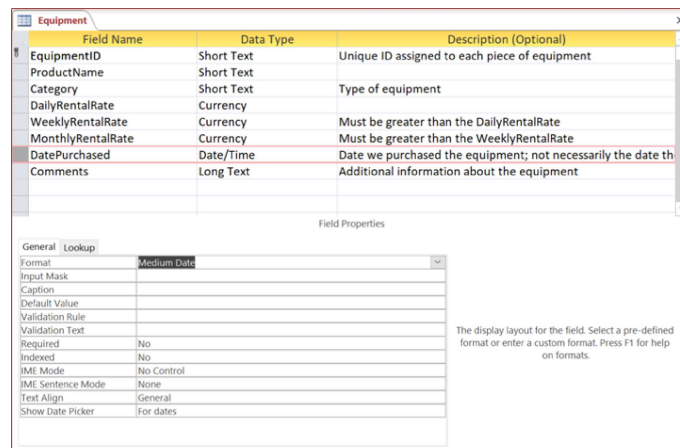

Figure 2-21 Design view of the completed *Equipment* table
7. Save the table. Your completed table design should be similar to Figure 2-21.